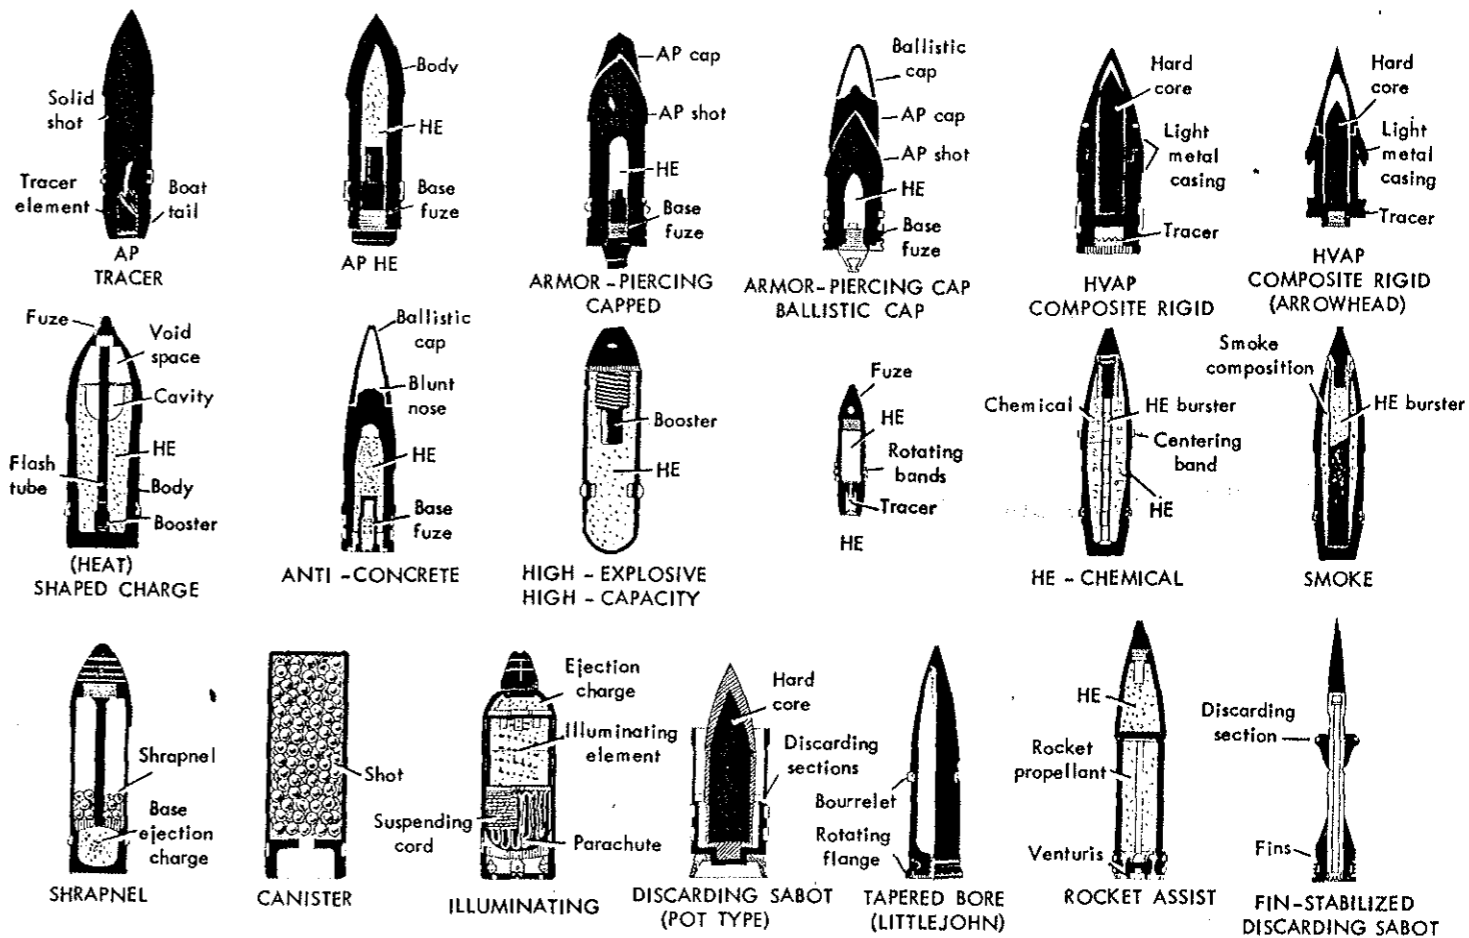
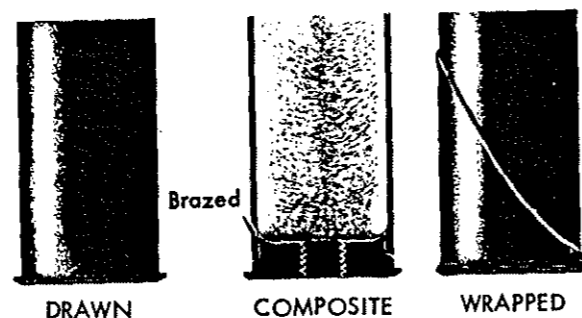

Figure 59.
Figure 61.
1. Fuze (figs. 59 and 60).
2. Projectile (fig. 59).
Projectiles may be either fin-stabilized or spin-stabilized. In the former case, they make use of tail fins and either do not rotate or rotate comparatively slowly, while those of the latter type have spin imparted to them during their passage through the bore of the gun by means of the gun rifling and a rotating band on the shell, or by pre-engraved spines on the shell. The types of projectiles in common use are shown in figure 59. A drawing, showing a rotating band and also giving examples of the minute dimensions required for projectile identification, is shown in figure 61. Shapes and positions of other types of rotating bands will be found in figure 59.
3. Cartridge Case (fig. 61).
plated steel, light alloys, plastics, etc., by one of three methods: drawn, wrapped, or composite. Examples of cartridge cases for conventional guns are shown in figure 61.